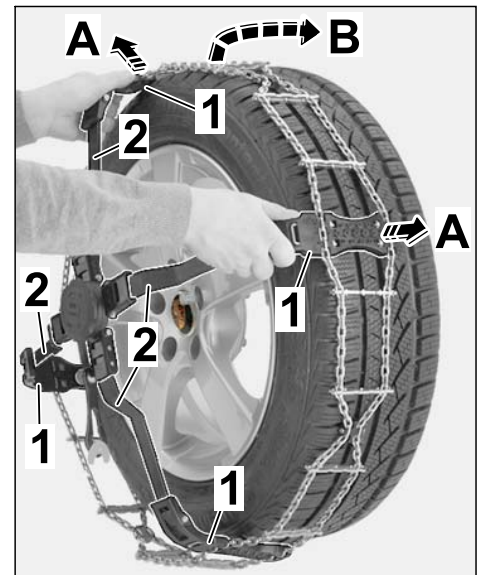

Figure 7
2.2.2 Open two adjacent plastic supports (⇒ Figure 7-A-) and guide them with the chain net from above as shown ⇒ Figure 7 as far as possible over the rear wheel (⇒ Figure 7-B-).